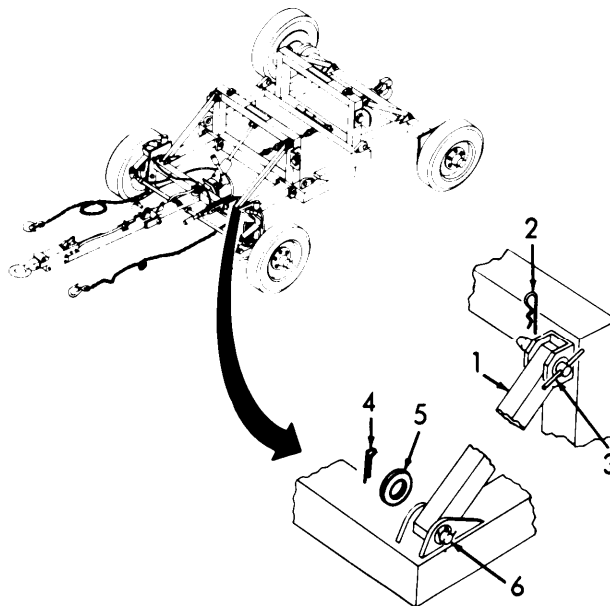

Figure 3-8. Lockout Struts, Removal and Installation
- (1) Remove locking clip (2, Figure 3-8) from T-pin (3).
- (2) Remove one cotter pin (4), and one washer (5) from pin (6).
- (3) Remove T-pin (3), pin (6), and lockout strut (1).